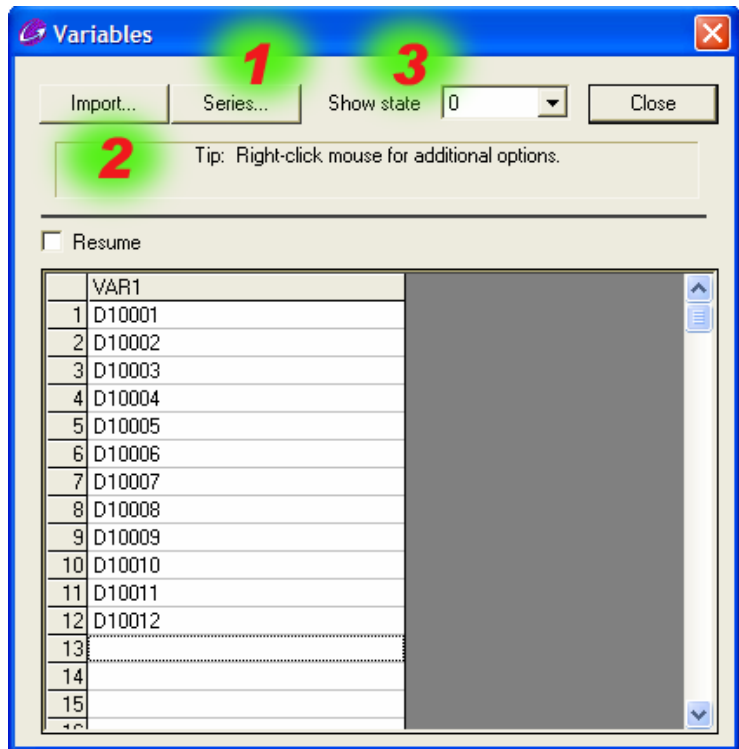

Figure 3-10 “Variables” Window
Let's look at the "Professional tools" pallet in figure 3-7. Immediately to the left of the "Variable text" tool is a similar looking icon. It's labeled "Edit variables". We'll click on it and a new window will open (Figure 3-10). It's titled "Variables", it looks like a spreadsheet and it's here that we'll enter our serial numbers
For this job, we’ll manually type in the twelve serial numbers we want - one for each plate. Figure 3-10 shows what the Variables window will look like when we’ve finished.
- ... ***If we click on the “Series” button at highlighted area 1 in Figure 3-10, a dialog window will open which will allow us to tell GravoStyle how to generate the list of variables if the items in the list follow a sequence.***